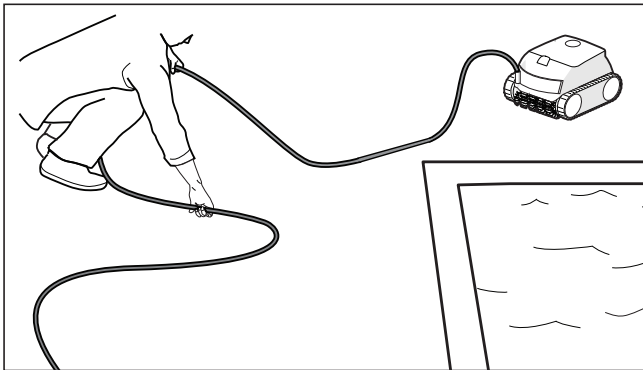

Figure 14. Untangle the power cable
2. Starting at the cleaner head, remove all twists and tangles from the cable. Lay the cable in the sun to loosen any tangling memory (see Figure 14).